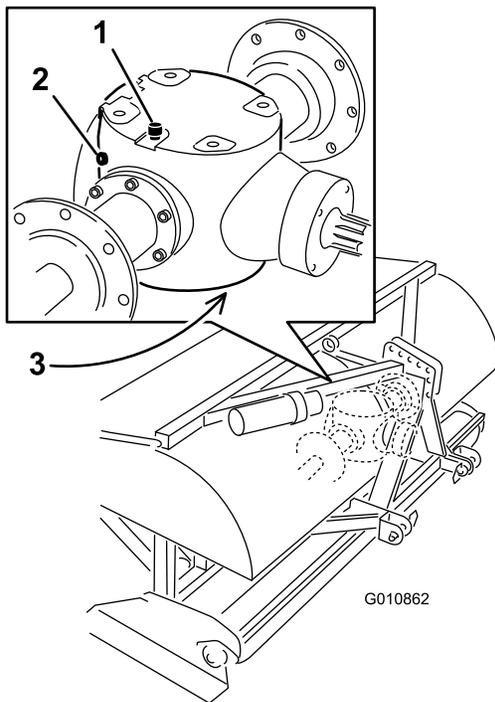

Figure 45
2. Remove the check plug from the gearbox (Figure 45).
3. Make sure oil is up to the bottom of the check plug hole in gearbox (Figure 45).
1. Clean debris from vent/fill plug and drain plug to avoid contamination (Figure 45).